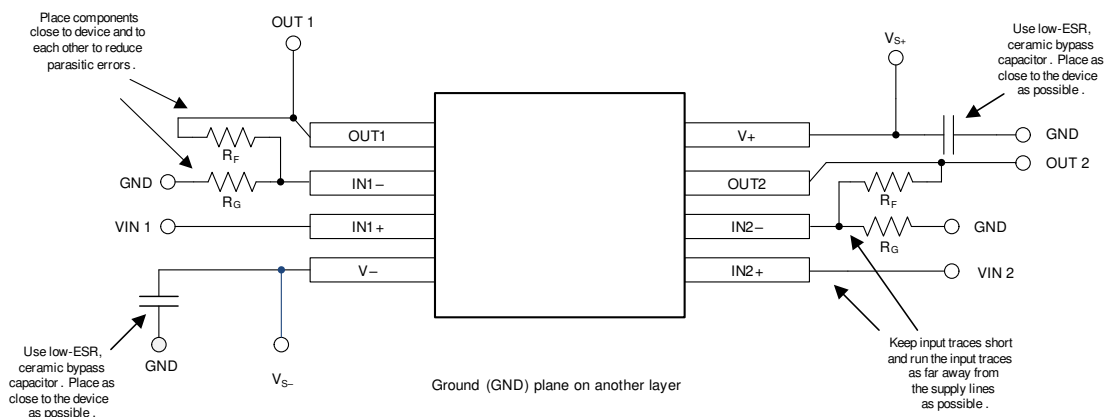

Figure 45. Layout Example
- Place the external components as close to the device as possible, as shown in Figure 45. Keeping R_F and R_G close to the inverting input minimizes parasitic capacitance.